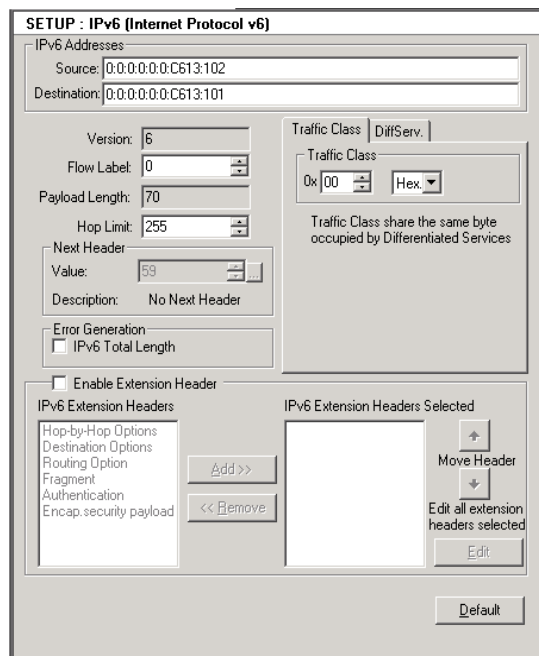

Figure 8-54. IPv6 SETUP Window Pane
- 1 Click the **IPv6** button and view the *SETUP* pane. (See *Figure 8-54* on page 407.)